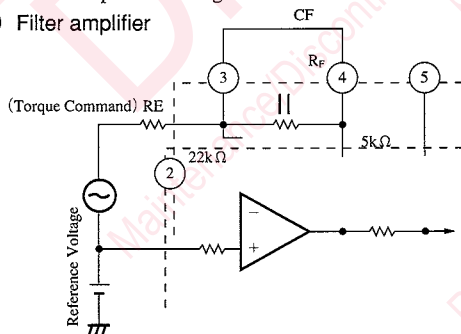

Fig.6 Ripple Filter
- This IC incorporates an operational amplifier. When a torque command is PWM input, it is used as a ripple filter. (Refer to Fig.6) In case of linear input, it is available as a phase compensating amplifier, etc.
(7) PVCC noise elimination